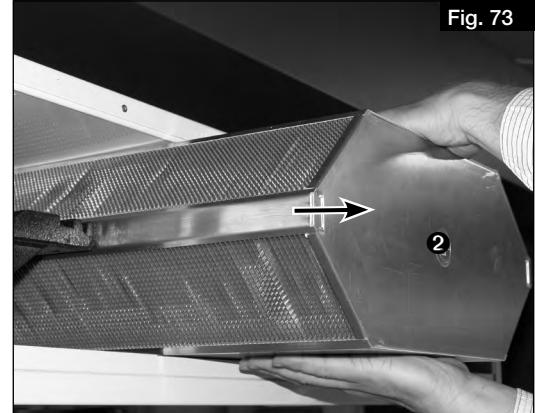

Fig. 73
3. Carefully remove the heat exchanger ② from the unit (see Fig. 73). Ensure that the fins are not damaged!